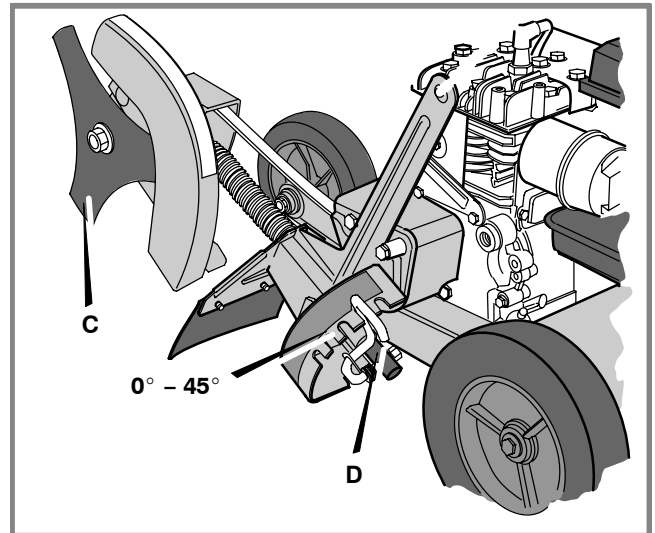

Figure 18: Edging Position
- 5 Disengage the index lever (D) (see Figure 18). Move the index lever to the desired position.
- For *edging*, set the index lever at a desired angle position (0° to 45°). Usually, angle position 30° or 45° will provided the desired result (see Figure 18).